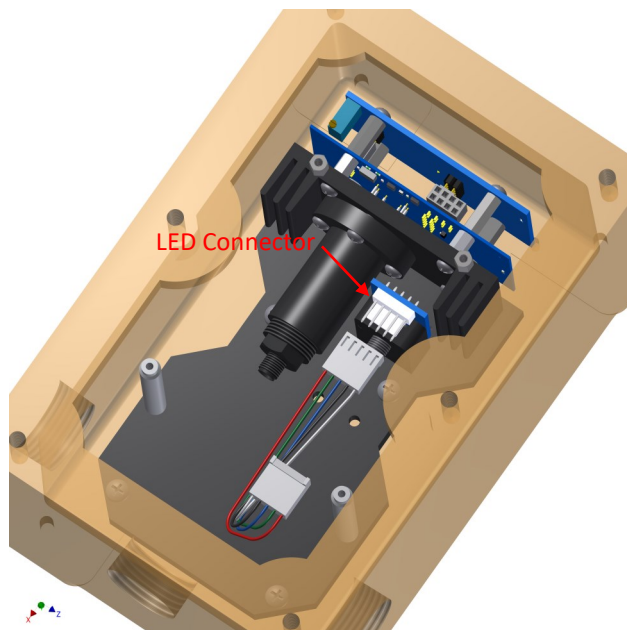

Figure 1.3.7
7. Connect the wiring assembly to the LED assembly. See figure 1.3.7.